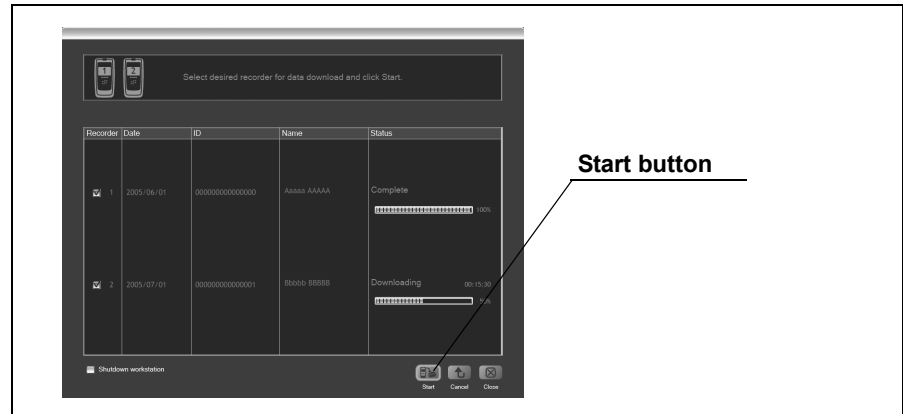

Figure 5.56
9. Click the [Start] button. The image data download will start (see Figure 5.56). The download status is displayed after starting the download.